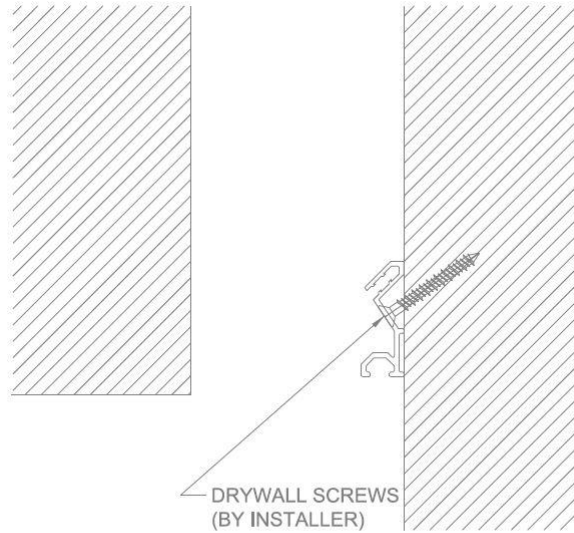

FIGURE 2
2. Attach the aluminum wall extrusions with an appropriate length drywall screw (by installer), making sure it penetrates the substrate. When attaching to a concrete wall, drill a hole into concrete using a  $\text{Ø}5/32$ " masonry bit and attach using  $\text{Ø}3/16$ " Tapcon anchors (by installer). **See Figure 2.**